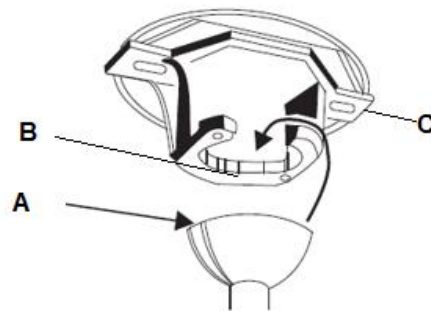

Fig. 5
Lift the fan assembly onto the mounting bracket. Ensure the key slot (A) of the hanger ball is positioned on the key pin (B) of the mounting bracket (C) to prevent the fan from rotating when in operation. (Fig.5)